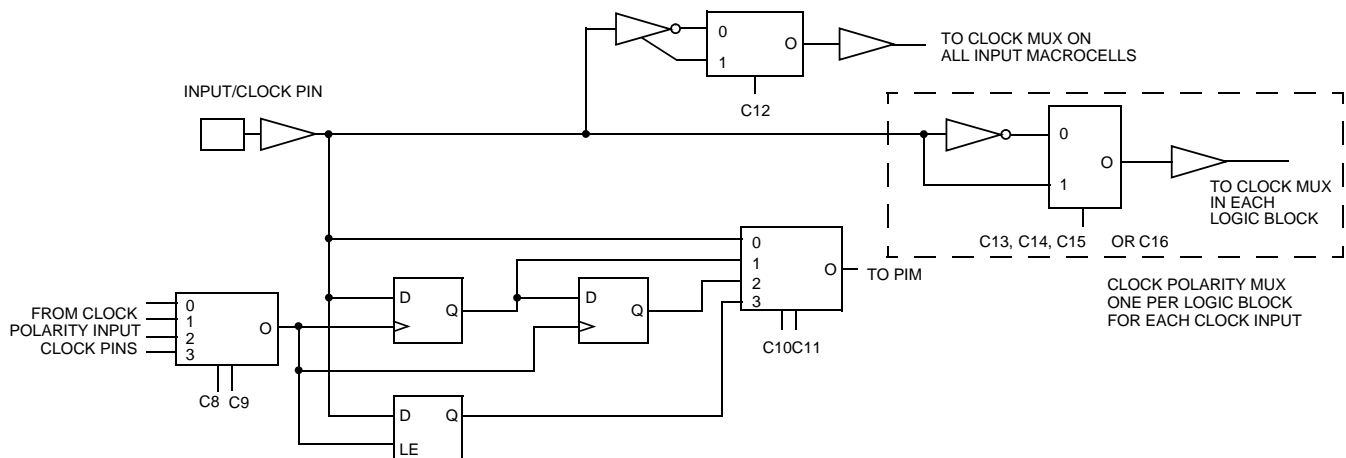

Figure 4. Input/Clock Macrocell
*Figure 4* illustrates the architecture for the input/clock pins. Like the input pins, input/clock pins can be combinational, registered, double-registered, or latched. In addition, these pins feed the clocking structures throughout the device. The clock path at the input has user-configurable polarity.